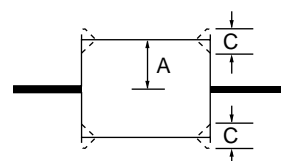

Figure 10 $C \leq 1/8A$
- 3 Ascertain that the waveform does not change remarkably. (Figure 10)